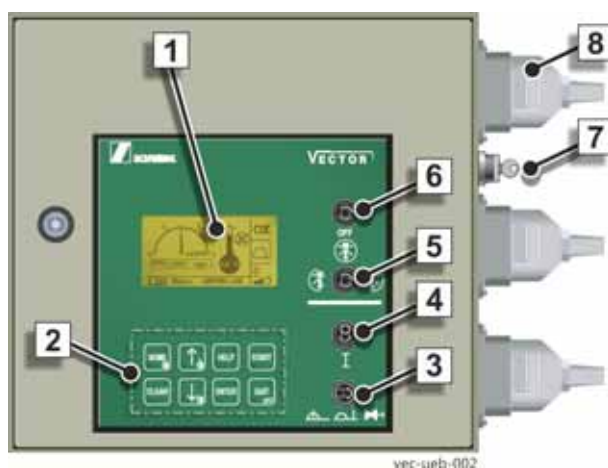

Fig. 113 Switch cabinet for VECTOR control system
The computer boots up, which is indicated by a progress bar on the display (1) (**Fig. 113**).
- Flip the selector switch (3) (**Fig. 113**) to the "Local control" position.
Display (1) (**Fig. 113**) contains a relevant note, see “**VECTOR control system**” on page 117.
➤ Start the control with the button (4) (Fig. 113).
Display (1) (**Fig. 113**) indicates the rotational speed of the power take-off or the drive speed of the distribution manual transmission gear.